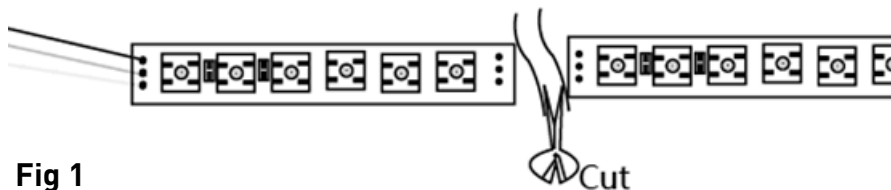

Fig 1
- When cutting the LED Flex, ensure it is only cut along the line indicated between the copper connections, approximately every 100mm along the strips' length (see Fig 1)